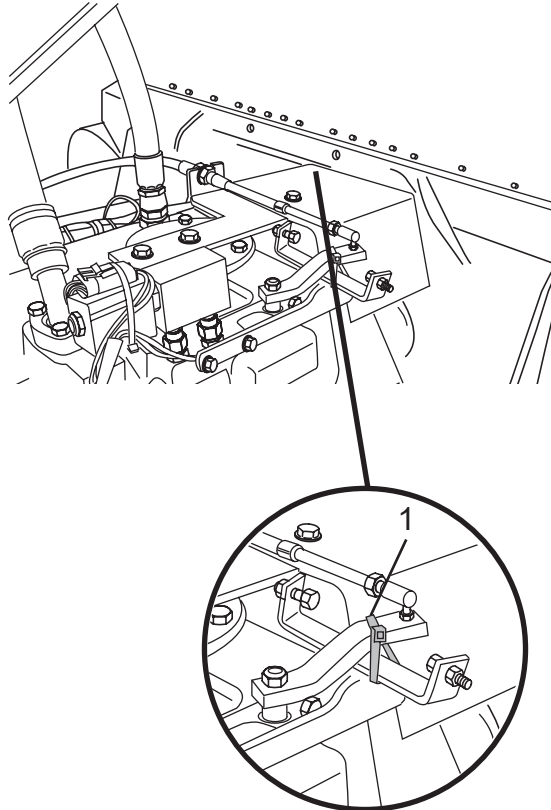

Figure 21
1. Remove the cable tie (Figure 21, Item 1) securing the hydraulic pump linkage in the TRANSPORT mode. The TRANSPORT mode constantly rotates the drum in the CHARGE direction at a speed of 1 to 1-1/2 RPM. This prevents the drum rollers from becoming damaged during transport.